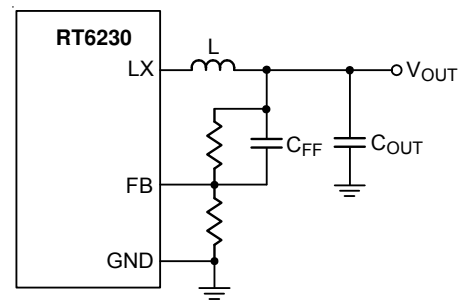
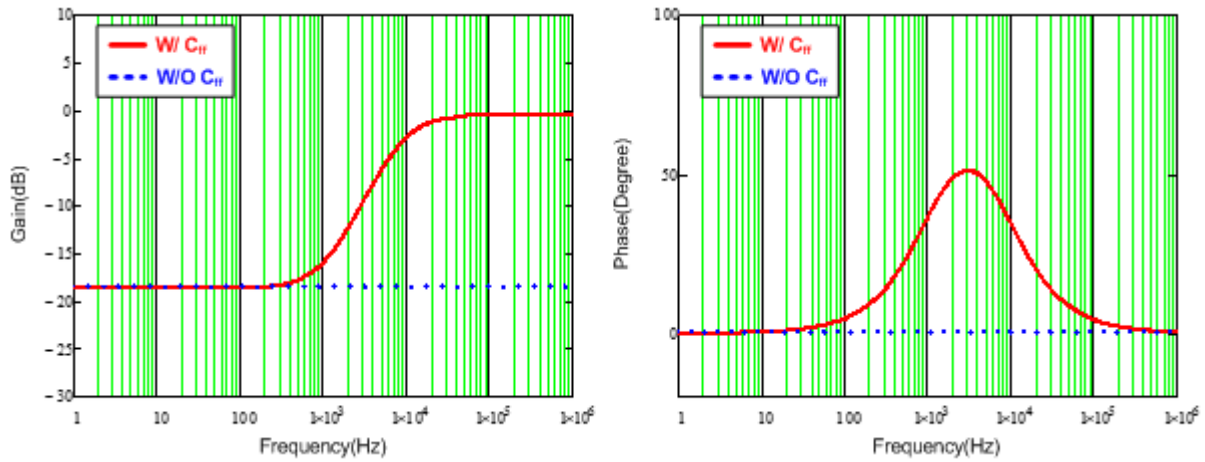

Figure 12. Feedback Loop with Feed-Forward Capacitor
Figure 13. Bode Plot with Different Feedback Loop Conditions
For saving time to design compensator and reducing the layout area through external components, the components of compensator are integrated in IC. However, this integrated compensator might not suit to every load transient spec. Hence, for the RT6230 to be more adaptable, the feed-forward capacitor C_{FF} is used in the feedback loop to improve transient response, as shown in Figure 12. Figure 13 shows the comparison result of bode plot with different feedback loop conditions. Referring to Figure 13, through connecting a C_{FF} in feedback network, the gain and phase are raised in mid-frequency that not only can extend the bandwidth, but also boost the phase margin. Moreover, there is also a high frequency pole to eliminate high frequency noise. Consequently, those features of feed-forward feedback network allow the RT6230 have faster response to handle different load transient.
Observing Figure 13, the maximum phase boost occurs between zero and pole frequencies that is defined as maximum phase boost frequency, as expressed in equation (4). Hence, in order to achieve the maximum phase boost by adding C_{FF} in the RT6230, the system's original bandwidth has to be located at maximum phase boost frequency.